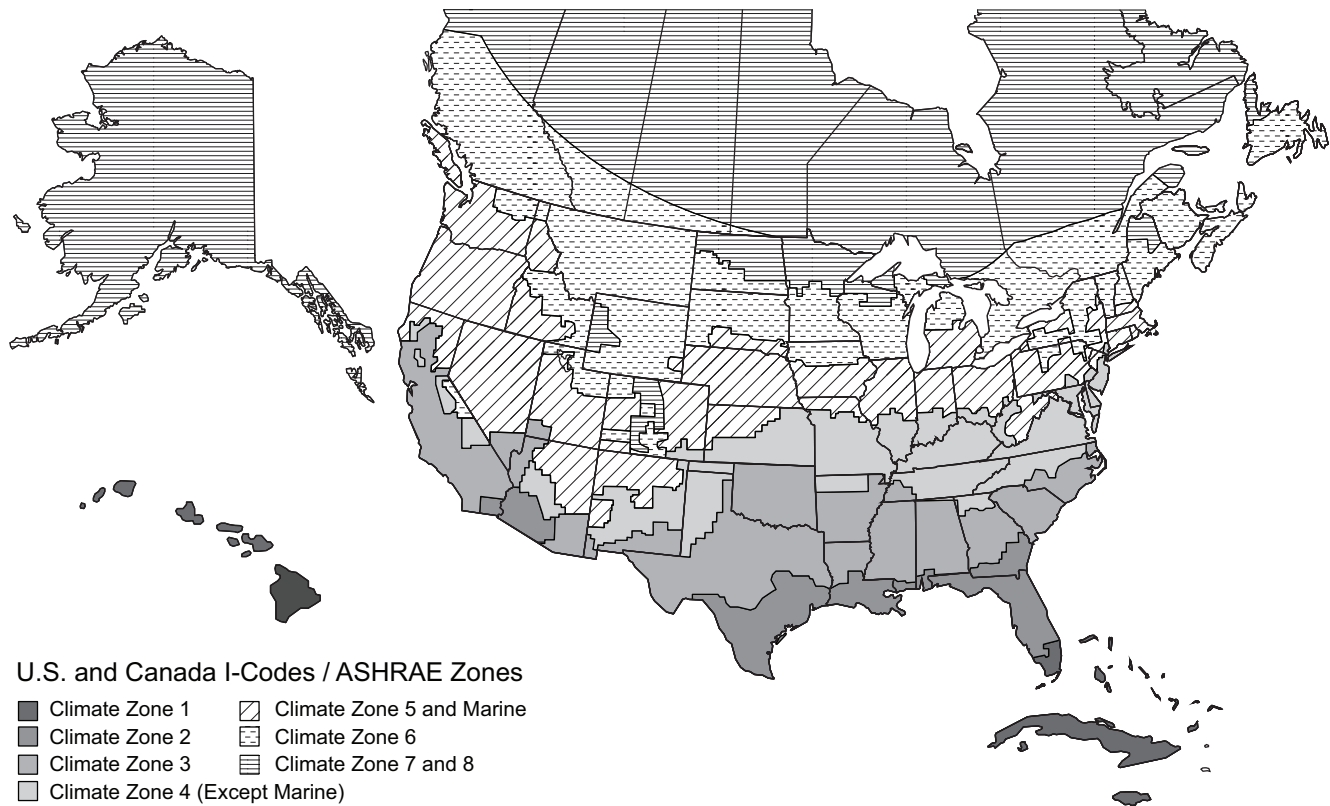

Fig. 77 — U.S. and Canada Climate Zones
- a. See Fig. 77 for map of U.S. and Canada climate zones.